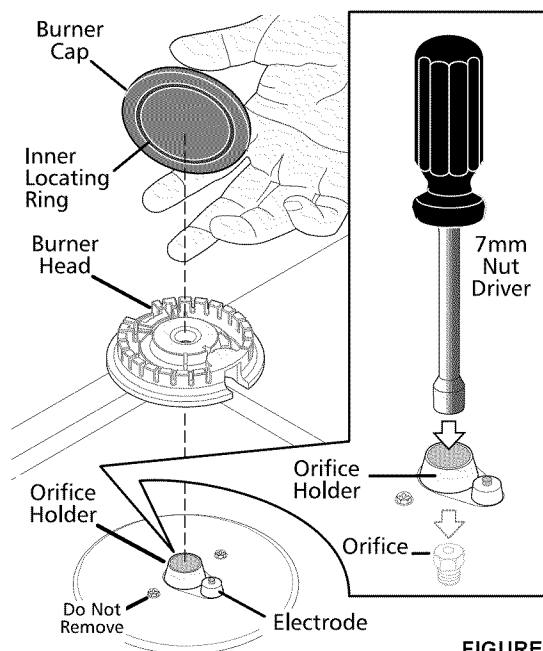

FIGURE 7
- Remove the four factory installed natural gas orifices from the center of the orifice holders using a 7 mm nutdriver (See Figure 7).